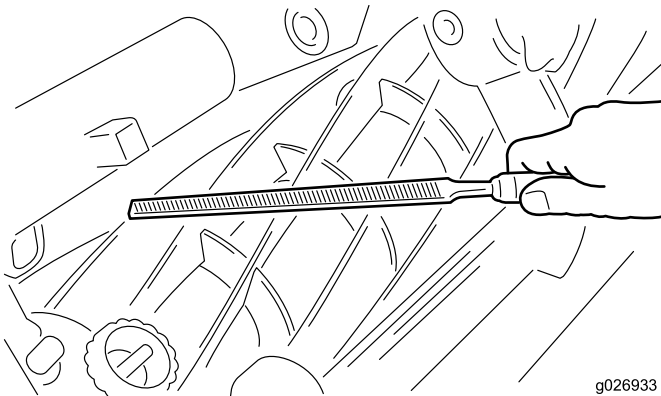

Figure 11
4. **Hitting a Foreign Object** – The bedknife and the reel cutting edges can be damaged if a foreign object is hit. The damage, if it is not too severe, can be repaired in the field. Start by filing down high spots on the bedknife and the reel (Figure 11). Use a ball peen hammer to straighten any reel blades that may be bent. Since the bedknife usually springs away from the reel upon impact, the bedknife must be adjusted; refer to Parallel the Bedknife to the Reel.